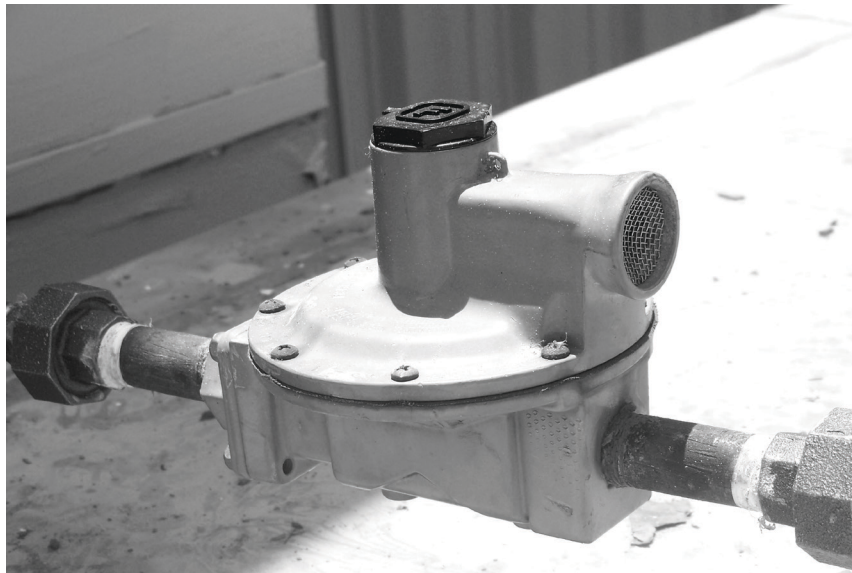

Figure 10. *Improper Installation: Horizontal Regulator Installation without Vent Cover*
- Vent pointing horizontal unless the regulator is covered with a protective cover or vent shelter. Without a protective cover, water could get inside the regulator and freeze or cause corrosion of internal parts. See Figure 10.